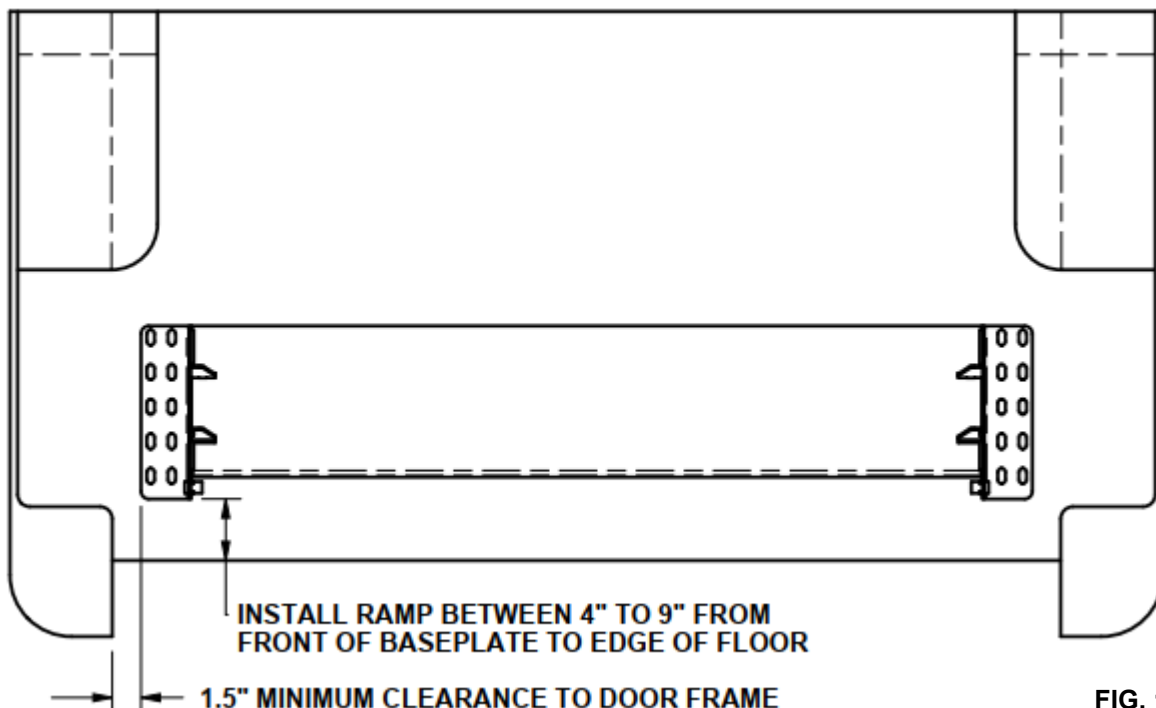

FIG. 1
4. Confirm clearances between the ramp and the van components. The ramp should be placed as close to the rear door as possible while insuring proper door closure and clearance. (See Fig. 1)
5. Mark the (4) slots to be used for mounting the ramp. Space out the bolts across the mount pattern.
6. Drill (4) 29/64" holes. Use etching primer on the raw surfaces of the holes.
**NOTE:** Rivet nuts can be used instead of the supplied fasteners. (2) 1/4" PLUSNUT® or equivalent fasteners can be used instead of (1) 7/16" fastener.